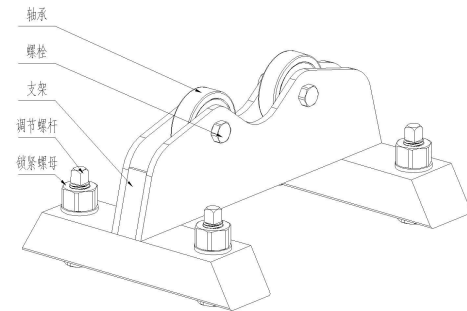

Fig.2
2. Place one end of the steel tubes on the roller and place another end of the steel tubes on the bracket, adjust the four bolts of bracket to vary two ends of tube keep parallel. Push the tube with a hand to check whether it moves or not. If it moves, vary the right-and-left position of bracket to fix the tubes and roller keep parallel, the steel tube being vertical to the cutting blade until the tubes never escape. (refer to Fig. 2-F ig.3).
· X Fig.2 Pipe Cutting Machine Component and Parts Form